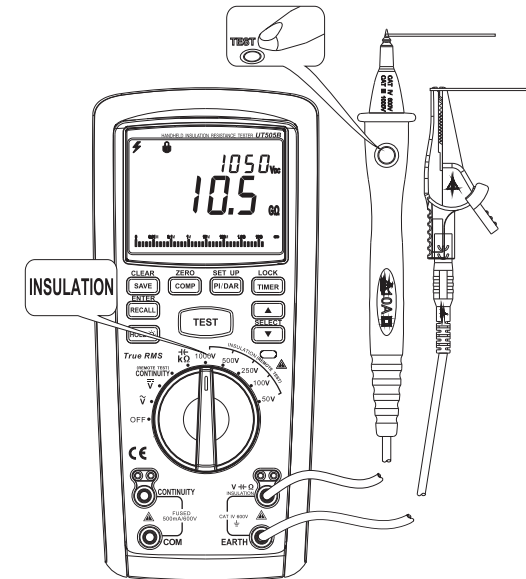

Figure 9
5. Measuring of Insulation Resistance (See Figure 9)
- ① Insert the red probe into "V" jack (red jack), and black one into "EARTH" jack (black jack).
- ② Rotate dial switch to INSUATION (area of insulation resistance) and select the tested voltage required.
6. Polarization Index or Insulation Absorption Ratio (See Figure 9)